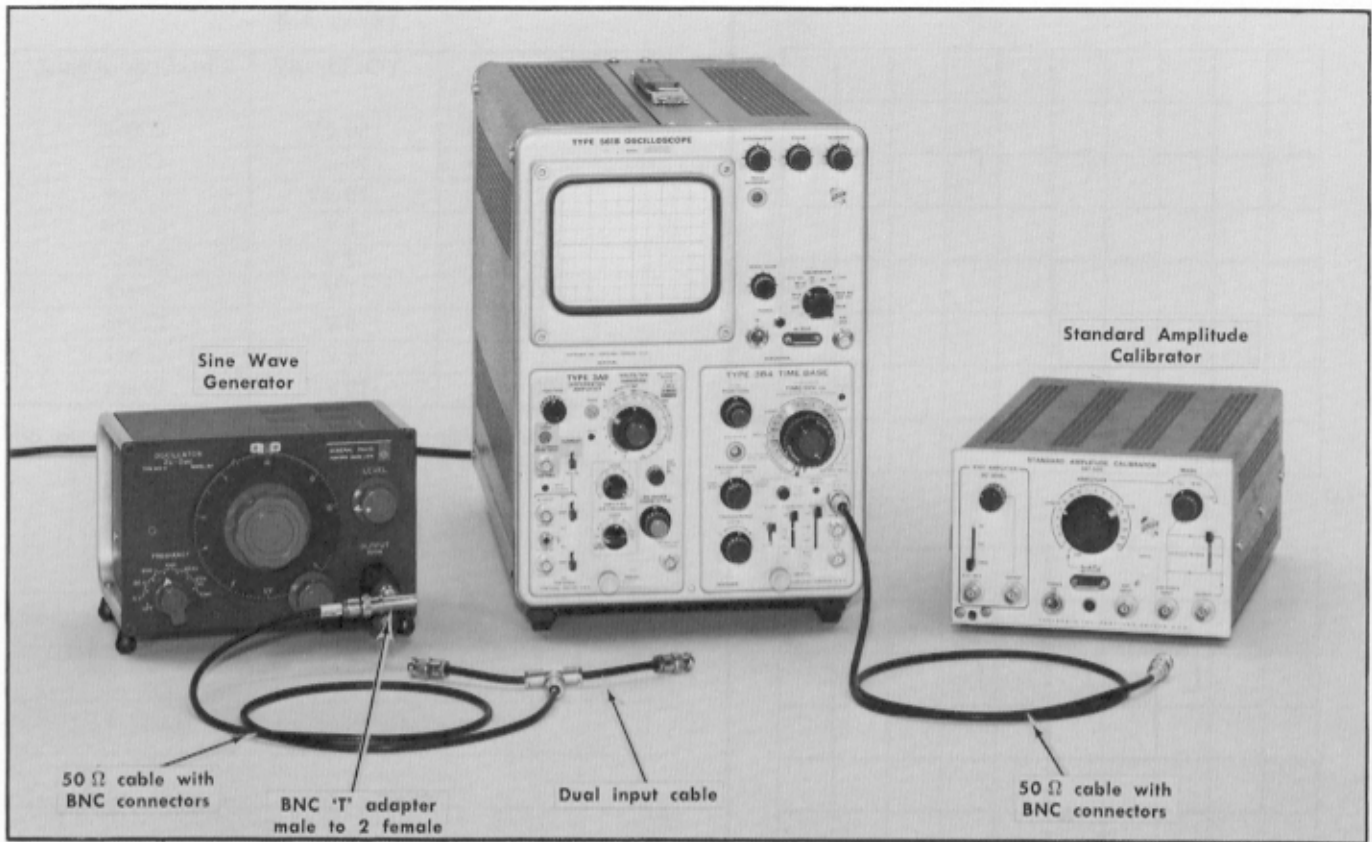

Fig. 5-29. Equipment required for steps 22 through 24.
- a. Test equipment is shown in Fig. 5-29.